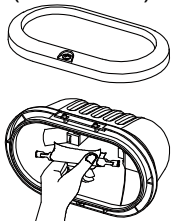

FIGURE 8
(4) Take off the front surround. Install bulb by inserting one end first and depressing until enough clearance is gained to seat the other end of the socket. Rotate halogen bulb to assure proper seating. Refit the front surround in place and fasten the screw (FIGURE 8).